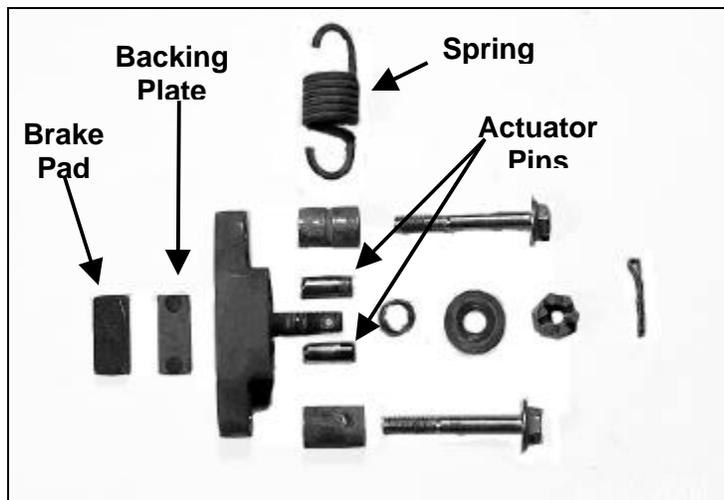

Figure 19: Brake Components
- Note:** The caliper contains four small parts: the brake pad, the backing plate, and two small actuator pins (*Figure 19*). As you let the caliper hang from its attaching hardware, keep track of these parts as they could fall out. Clean away any debris from these parts and the inside of the caliper.